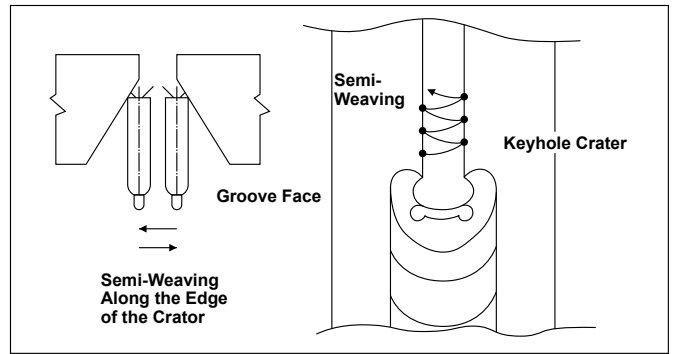

Fig. 4 — The keyhole technique
- (1) Use the keyhole technique. Right after you get the arc by striking the groove face, control the molten pool to form the keyhole crater: then manipulate the electrode along the edge of the keyhole by using the semi-weaving technique — Fig. 4.
- (4) Grind both the starting and ending terminals of the preceding weld beads to assure a smooth joint of weld beads with the succeeding welds.
- (5) When joining the weld beads, start the arc on the preceding bead, and expose the arc into the keyhole to assure better fusion: then follow the same procedure as in Fig. 4.